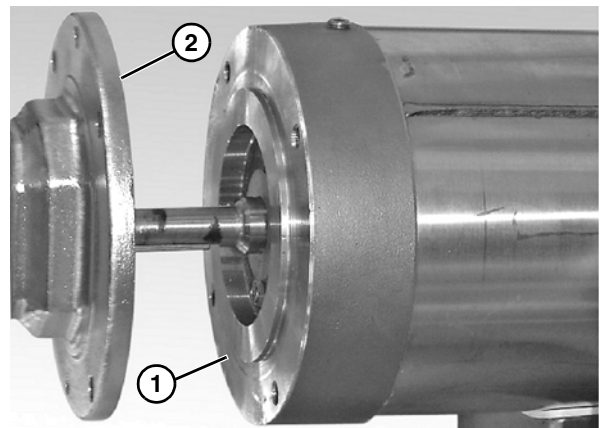

Figure 36
1. Attach the motor (**Figure 36**, item 1) to the gear reducer (**Figure 36**, item 2).